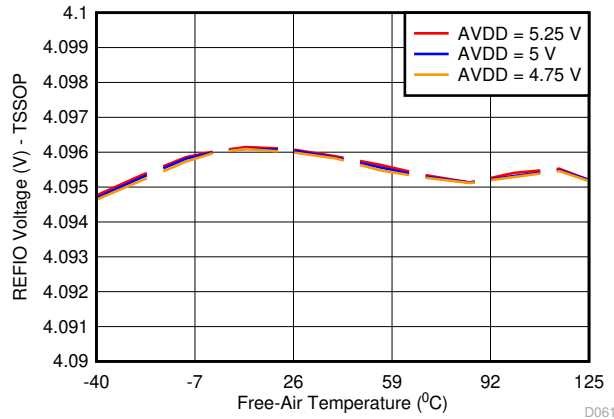
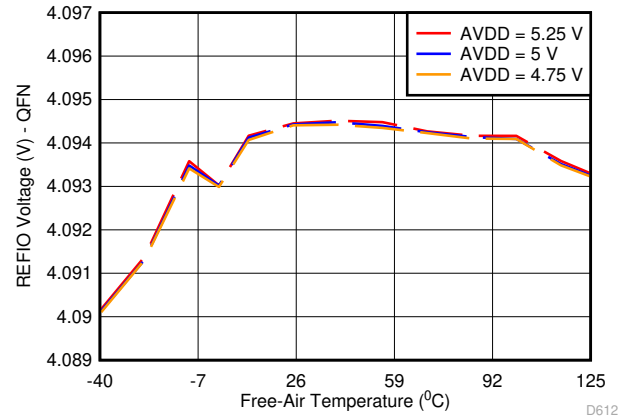
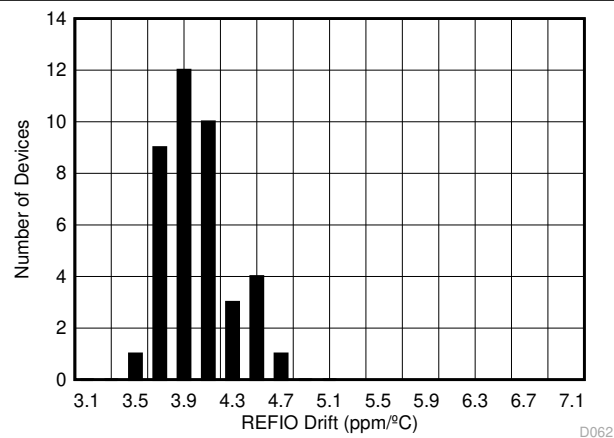
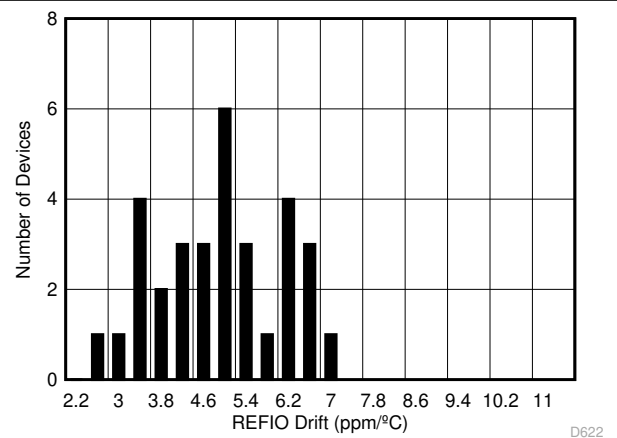

Figure 7-10. REFIO Voltage Variation Across AVDD and Temperature (PW Package)
Figure 7-11. REFIO Voltage Variation Across AVDD and Temperature (RUM Package)
Figure 7-12. Internal Reference Temperature Drift Histogram (PW Package)
Figure 7-13. Internal Reference Temperature Drift Histogram (RUM Package)
The internal reference is also temperature compensated to provide excellent temperature drift over an extended industrial temperature range of -40°C to $+125^{\circ}\text{C}$. Figure 7-10 and Figure 7-11 show the variation of the internal reference voltage across temperature for different values of the AVDD supply voltage. The temperature drift of the internal reference is also a function of the package type. Figure 7-12 and Figure 7-13 show histogram distribution of the reference voltage drift for the TSSOP (PW) and WQFN (RUM) packages, respectively.